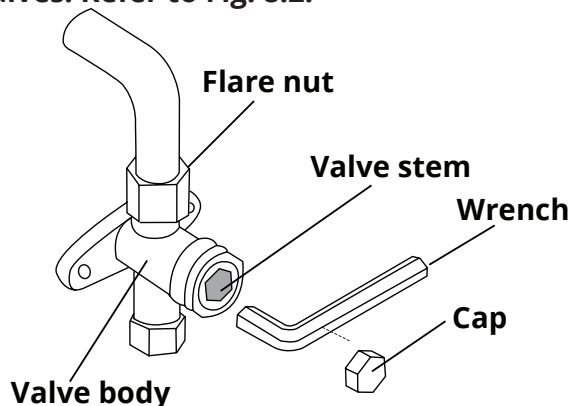
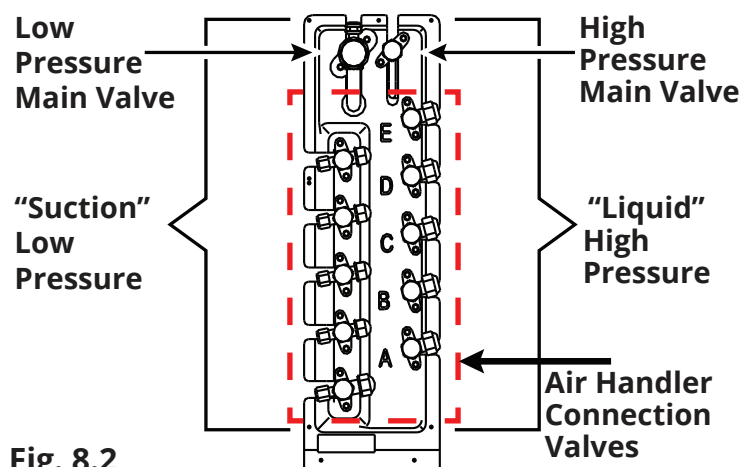

Fig. 8.1
Fig. 8.2
9. Insert an Allen/hexagonal wrench into the packed valve (high pressure valve) and open the valve by turning the wrench 1/4 turn counter-clockwise (Refer to Fig. 8.1). Listen for gas to exit the system, then close the valve after 5 seconds. **If installing a 3, 4, or 5 zone multi-zone condenser, open all of the high pressure valves connected to the air handler piping 1/4 turn counter-clockwise first. Now, open the high pressure main valve 1/4 turn counter-clockwise. Listen for gas to exit the system, then close the main valve after 5 seconds. Then, close all of the other valves. Refer to Fig. 8.2.**